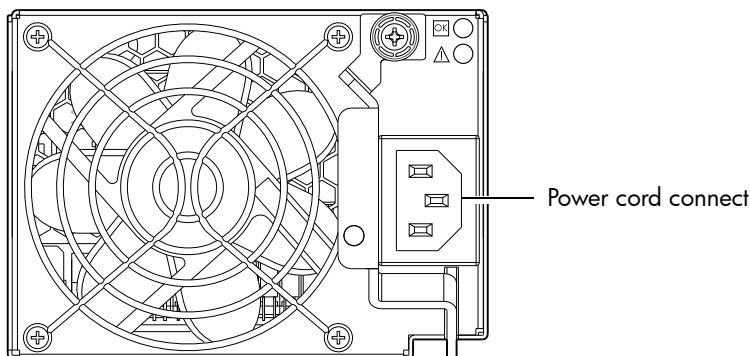
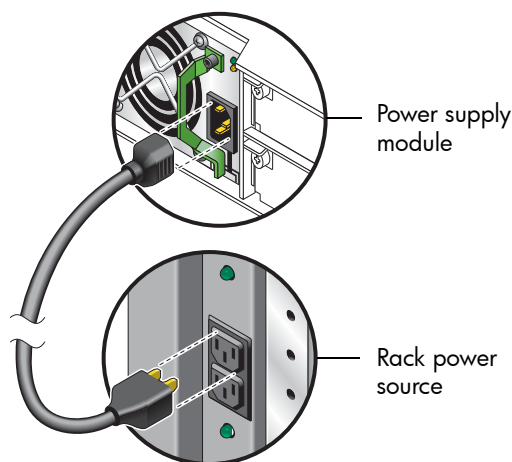
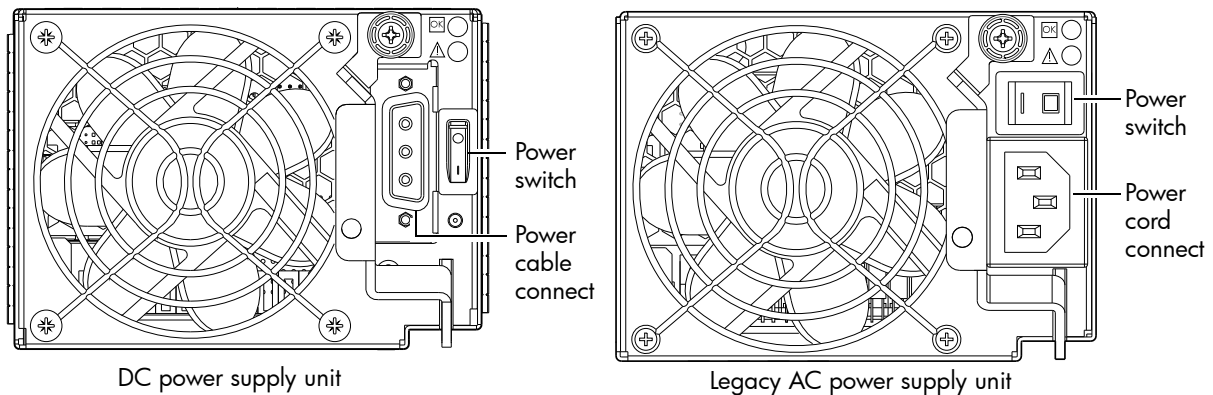

Figure 11 AC PSU
Figure 12 AC power cord
Figure 13 DC and AC PSUs with power switch
1. Plug the power cord into the power cord connector on the back of the drive enclosure. Plug the other end of the power cord into the rack power source (see Figure 11 and Figure 12). Wait several seconds to allow the disks to spin up.
2. Plug the power cord into the power cord connector on the back of the controller enclosure. Plug the other end of the power cord into the rack power source (see Figure 11 and Figure 12).
See Figure 14 and the illustration at left (in Figure 13) when performing the following steps:
Obtain two suitable AC power cords: one for each AC power supply that will connect to a separate power source. See Figure 12 on page 31 and the illustration at right in Figure 13 when performing the following steps: